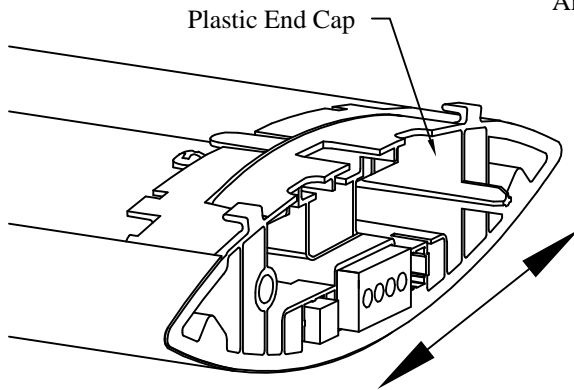
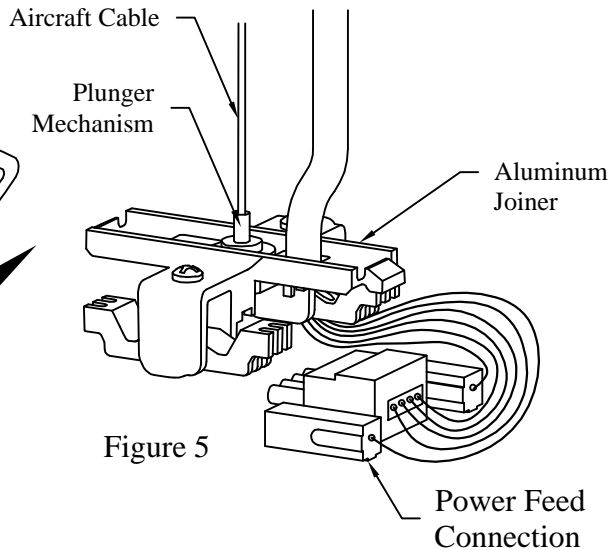

Figure 4
Figure 5
2. Install luminaire temporarily by inserting die-cast aluminum joiner mechanism at the end of aircraft cables (Figure 5). into plastic end cap of fixture (Figure 4). Manually plug in power feed connection (plus 2 extra communication cables for Agili-T Network) when installing single luminaire or first of a row (Figure 5).
3. Adjust height using aircraft cable plunger mechanism (Figure 5). Adjust level by sliding Aluminum Joiner sideways as needed (Figure 4). Final level adjustment can be performed before or after installing end-cap or next luminaire in a row.
5. Secure end-caps or next luminaire in row by tightening two screw wedges (Figure 6-7) of aluminum joiner (Figure 4).